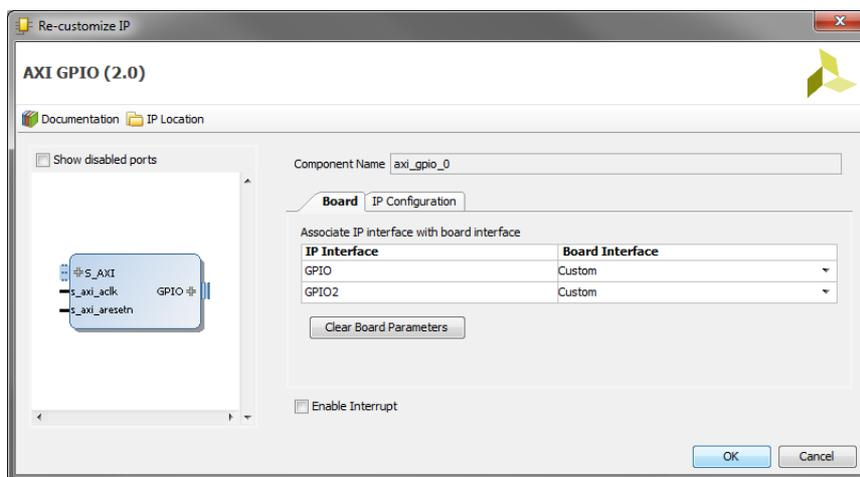

Figure 5.22: Re-customize IP window (GPIO)
- (k) Open the *Re-customize IP* window by double-clicking on the **axi_gpio_0** block. The window, as shown in Figure 5.22, will open.